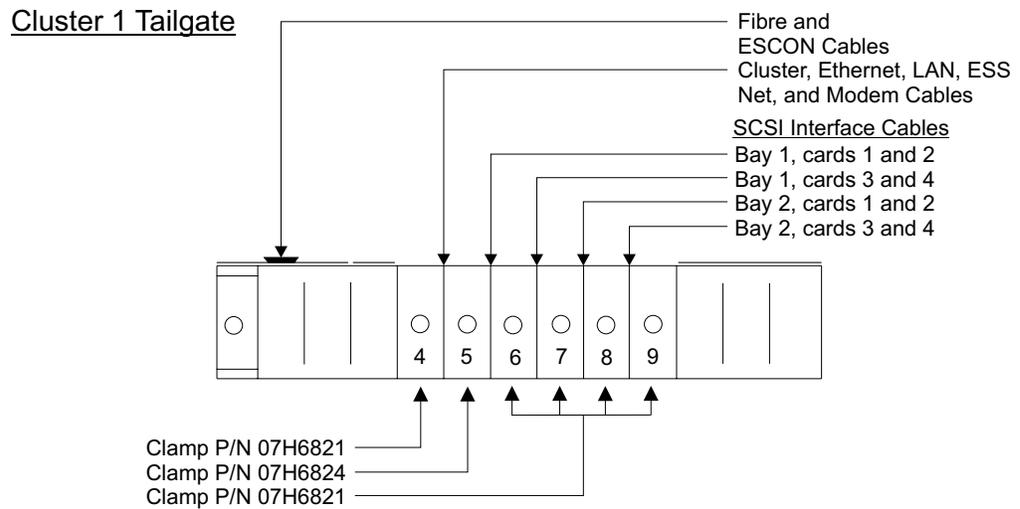

Figure 307. Cluster Bay 1, Tailgate Cable and Cable Clamp Locations (S008270m)
- Cluster Bay 1, see Figure 307 on page 312